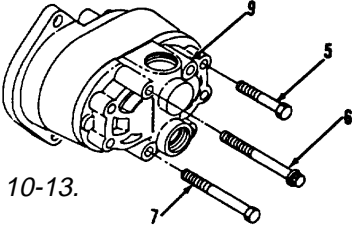

Figure 10-13.
- 85. Install two bolts (7 and 6) and four bolts (5, Figure 10-13).